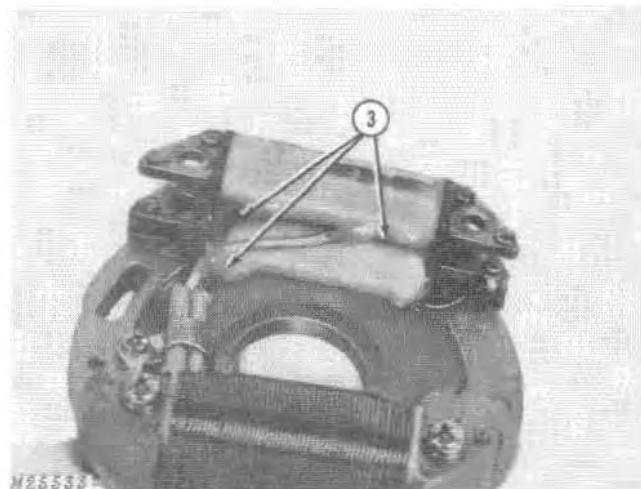

Fig. 29-Removing Coils
3. Chip epoxy seal from connections on coil being replaced, Fig. 29.